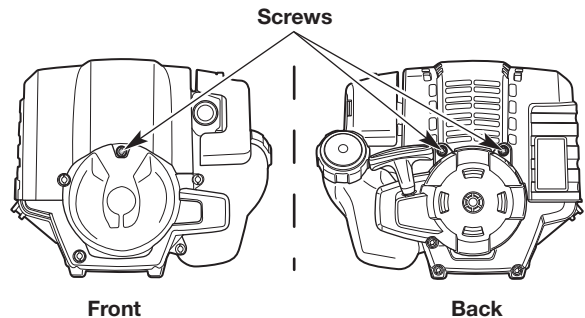

Fig. 25
2. Remove the three (3) screws from the engine cover with a flat-head screwdriver or T-25 Torx screwdriver (Fig. 25). Remove the engine cover.